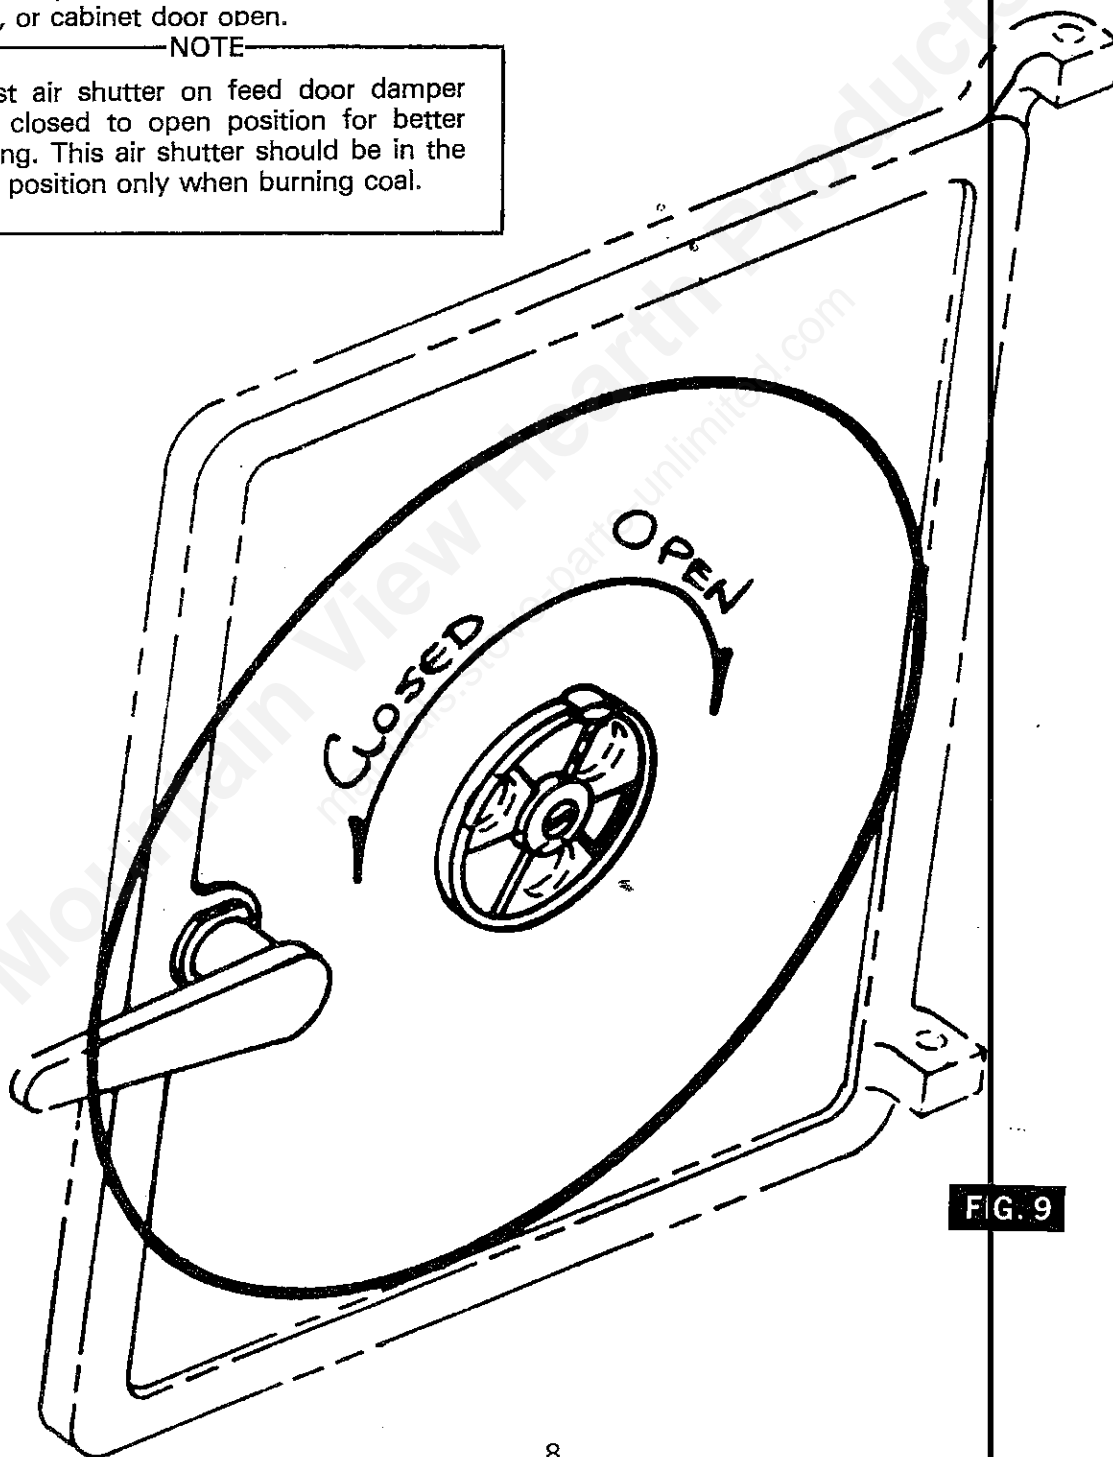

FIG. 9
- d. Adjust air shutter on feed door damper from closed to open position for better burning. (See Fig. 9).
7. Adjust air shutter on feed door damper from closed to open position for better burning. (See Fig. 9).